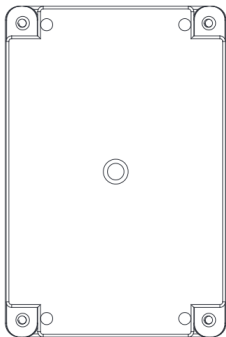

Figure 1
1. Locate the mounting holes on the bottom of the enclosure, as shown in Figure 1.